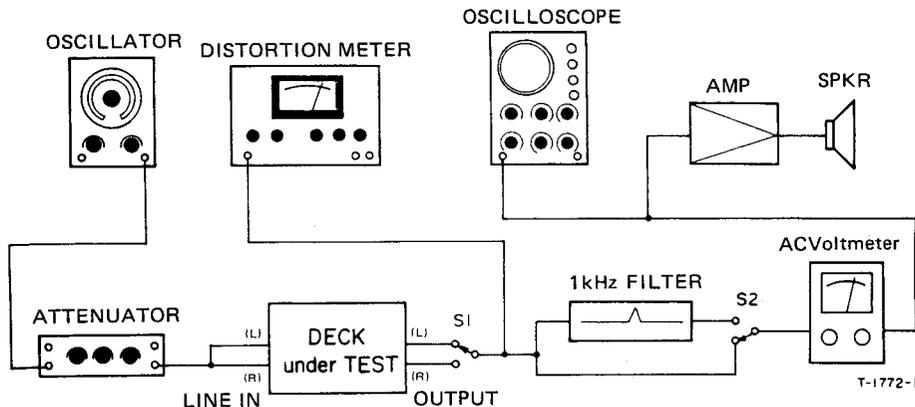

Fig. 5-1 Basic test setup
19. Erase efficiency	<ul style="list-style-type: none"> <li>• Connection is same as in Fig. 5-1, but engage 1-kHz filter.</li> <li>• Record a 1-kHz signal. Rewind tape to midpoint of recorded portion. Record a "no signal" portion. Find the difference between the 1-kHz portion and the "no-signal" portion.</li> </ul>
20. REC MUTE function	<ul style="list-style-type: none"> <li>• Connection: Fig. 5-1, but engage 1-kHz filter.</li> <li>• Record a 1-kHz signal. Push REC MUTE button for several seconds. Rewind and play the tape. Find the difference between the 1-kHz portion and the "no-signal" portion.</li> </ul>
21. Channel separation	<ul style="list-style-type: none"> <li>• Connection: Fig. 5-1, but do not connect LINE IN (R), and engage 1-kHz filter.</li> <li>• Set the deck to record mode. Find the difference between the 1-kHz recorded portion (L-ch) and the "no signal" portion (R-ch).</li> </ul>
22. Adjacent track crosstalk	<ul style="list-style-type: none"> <li>• Connection: Fig. 5-1, but do not connect LINE IN (L) and OUTPUT (L).</li> <li>• Record a 125 Hz signal on R-ch and note output level. Invert tape and play R-ch track. Check leakage level against the output reference of previously recorded portion.</li> </ul>